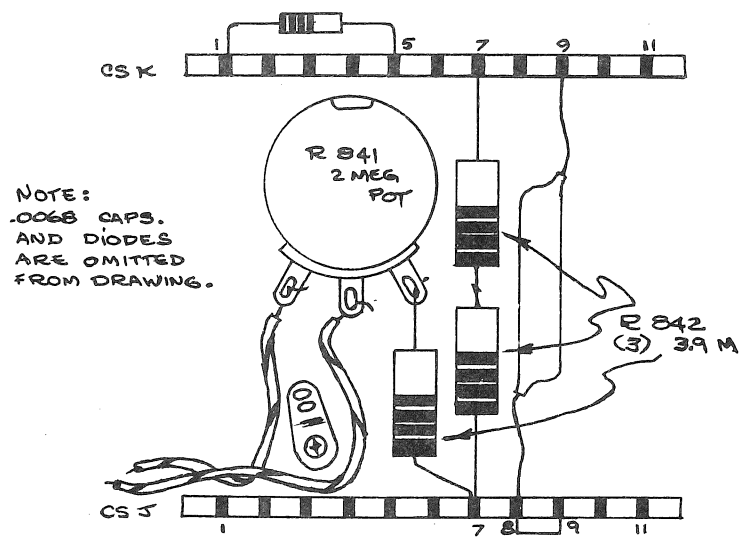

Fig. 2
B. RM561A ONLY: REFER TO FIG 2 FOR STEPS B-1 THROUGH B-3.